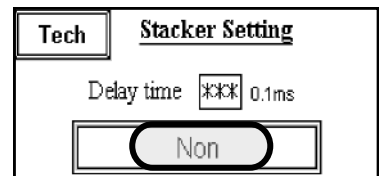

Figure 40
12.4 STACKER TIMING SETTING. Press **Stacker** (See Figure 40)